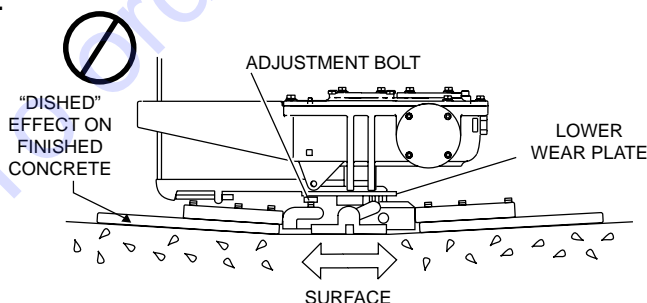

Figure 31. Incorrect Spider Plate Alignment
2. Pitch the blades as flat as possible. The adjustment bolts should all barely make contact with the lower wear plate on the spider. If one is not making contact, adjustment will be necessary (Figure 31).
Figure 31 illustrates “incorrect alignment,” worn spider bushings or bent trowel arms. Check that the adjustment bolt is barely touching (0.10" max. clearance) lower wear plate. All alignment bolts should be spaced the same distance from the lower wear plate.